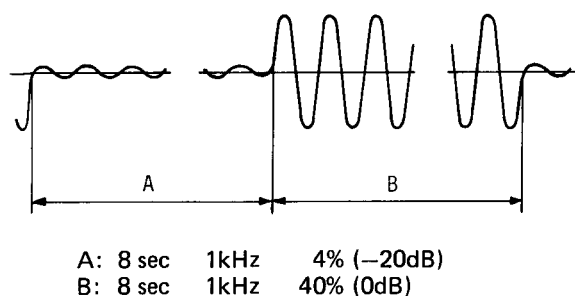

Fig. 3.15 CX System Check Signal
- ➡ The audio signal offset adjusting signal is recorded from Frame #9,001 (Chapter #11) of test disc F2. This signal consists of a sine wave of 1 kHz in channel 1/left (CH-1/L) and a non-modulated signal in CH-2/R as shown in Fig. 3.15. Then, from Frame #10,351 (Chapter #12), the relationship of the channels is reversed.
- In the signal shown in Fig. 3.15, gain is changed over in Sections A and B, if the CX system is operative.